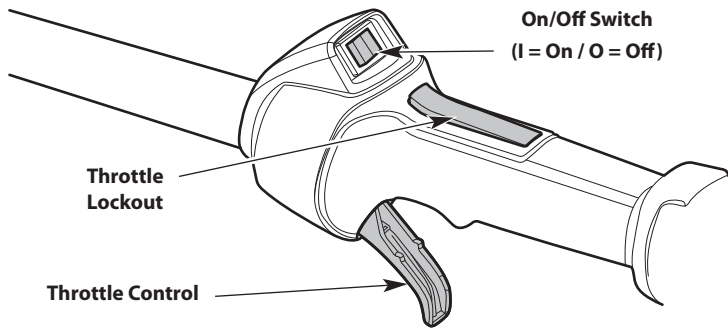

Fig. 14
**NOTE:** There is no need to turn the unit on. The On/Off switch is in the **On (I)** position at all times (Fig. 14).
4. Press and hold the throttle lockout. Squeeze and hold the throttle control (Fig. 14).
2. Press and hold the On/Off switch in the **Off (O)** position until the engine comes to a complete stop (Fig. 14).